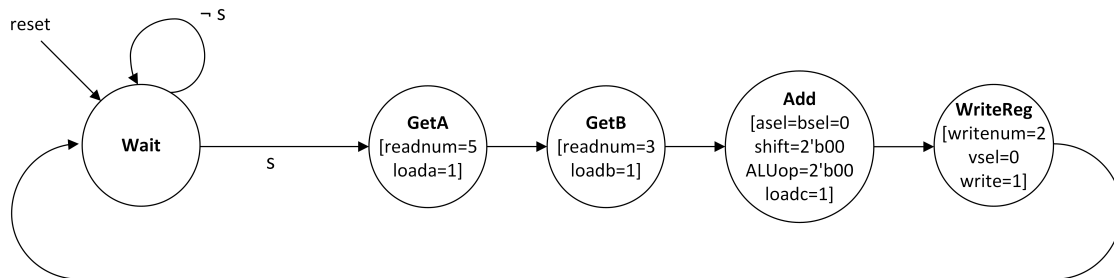
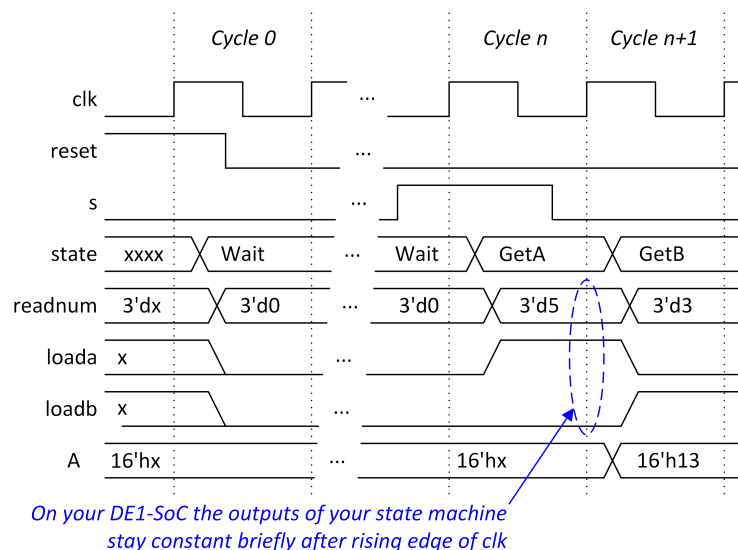
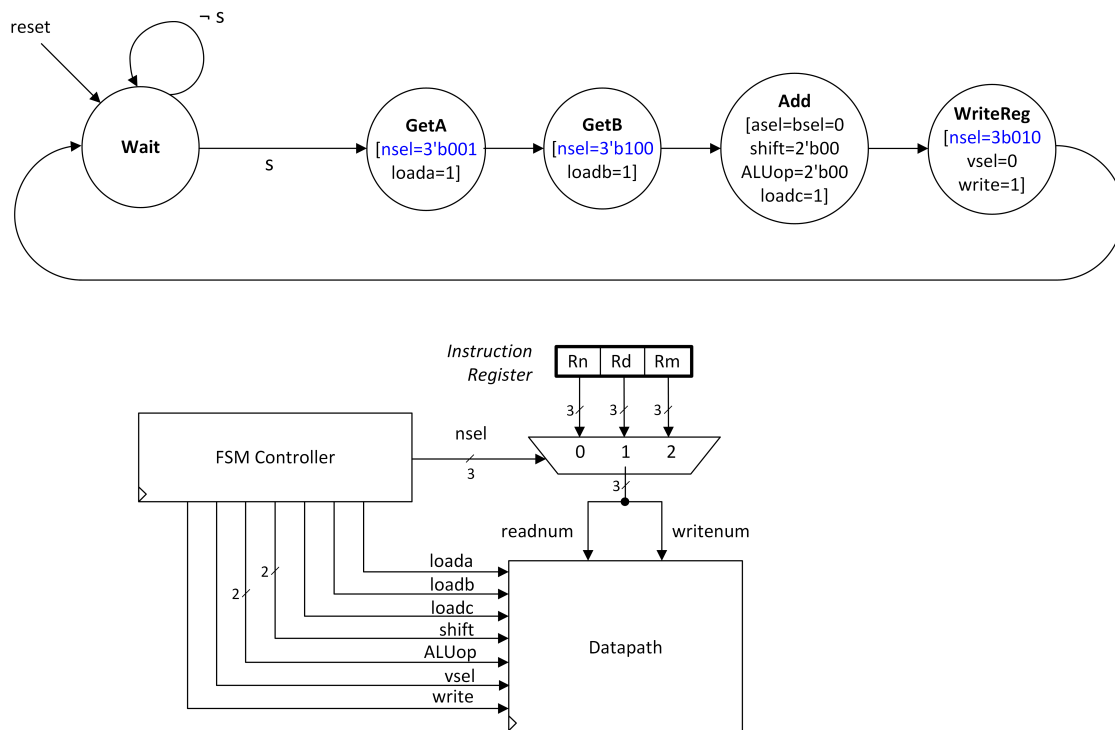

Figure 1: Finite state machine for “ADD R2, R5, R3” (do not build).
Figure 2: Register A updated on same rising edge of  $clk$  that state changes from GetA to GetB.
Figure 3: A partial instruction register (do NOT build).
To execute “ADD R2, R5, R3” on the datapath in Lab 5 requires four clock cycles and manually setting the control inputs. A faster way to set the control inputs is using a finite state machine. Figure 1 illustrates a **preliminary** state machine design for implementing “ADD R2, R5, R3”. The inputs to the state machine are *reset*, *s* and the clock (not shown). The outputs of the FSM are inputs to the Lab 5 datapath. In Figure 1 any datapath input not shown as an output of a given state is 0 in that state. For example, when in state *GetA* the datapath input *loadc* is assumed to be 0 even though it is not explicitly shown inside the circle representing state *GetA*. Later, in Section 4.2, you will design your own state machine. When you do, remember you need to set all outputs in every state (including zero and don’t care outputs).
In Figure 1, after reset the state machine waits for a start signal *s* in state *Wait*. Here a value of 1 on
Figure 2 illustrates the timing of a circuit combining the controller in Figure 1 with the data path from Lab 5 would behave assuming R5 initially contains 16'h13. ModelSim performs **functional simulation** in which the output of flip-flops and combinational logic occur after an infinitesimally small (but non-zero) delay so that values will appear to change right at the rising edge of  $clk$ . To understand Figure 2 it is important to remember the output of flip-flops and combinational logic in a real circuit do not actually change instantly after the rising edge of the clock in a real circuit.
In detail the behavior in Figure 2 is as follows: When in *state* *Wait* and  $s$  is 1, the rising edge of  $clk$  at the start of *Cycle n* causes *state* to change to *GetA*. The change in *state* causes *readnum* to be set to 5 (shown as “3'd5”) and *loada* is set to 1. At the next rising edge of the clock, between *Cycle n* and *Cycle n+1*, the contents of register R5 are copied to Register A and simultaneously *state* changes to *GetB*. The *state* change to *GetB* causes *readnum* to change from 5 to 3. If you were to look at this waveform in ModelSim the slight delays in the change of *state*, *readnum*, *loada*, *loadb* and A after the rising edge of  $clk$  would not be shown. The lack of such a delay in ModelSim waveforms leads some students to worry that *readnum* changing at this rising edge could cause the contents of R3 to get copied into Register A (instead of R5). Provided you have written Verilog that follows the synthesis rules taught in class, this incorrect behavior will not happen in the real circuit or your ModelSim simulations for two reasons: First, the flip-flops inside of register A start to copy their D input to their Q output at the rising edge of  $clk$  between *Cycle n* and *Cycle n+1*. Due to circuit delays, we do not see the output of register A change until some time after the rising edge but the copying started at the rising edge. Second, again reflecting how the real circuit operates the flip-flop outputs connected to *state* change slightly after the rising edge of  $clk$  and the state machine outputs *readnum*, *loada* and *loadb* change slightly after the change in *state* due to the delay of combinational logic. Thus, *loada* and *readnum* are still equal to 1 and 5 when the update of register A starts so the contents of R5 are (correctly) copied to A **before** the change in *readnum* during *Cycle n+1* can cause a problem.
What if we want to be able to use different registers besides R2, R5, and R3 while performing addition? We can introduce some *programmability* by adding an *instruction register*. Figure 3 illustrates the datapath from Lab 5 combined with a state machine and instruction register. In this figure, the block labeled “Instruction
Register” contains three 3-bit fields: Rd, Rn and Rm. Each 3-bit field is used to specify the name of one of the eight registers inside the register file inside the datapath. The block labeled “FSM Controller” implements the (revised) state machine illustrated at the top of Figure 3. This state machine uses the datapath and instruction register to implement “ADD Rd, Rn, Rm”. For example, to execute “ADD R2, R5, R3” we would set Rd=3'b010, Rn=3'b101, and Rm=3'b011.
Compared with Figure 1 the output of the states for the state machine in Figure 3 have been modified. Instead of directly specifying constant values for *readnum* and *writenum* the state machine now has an output called “*nselect*”. The signal *nselect* is used as the select input of a three input multiplexer. This multiplexer selects which of the 3-bit values Rd, Rn or Rm inside “Instruction Register” should be driven to *readnum* and *writenum* (we used the same multiplexer for *readnum* and *writenum* as at any given time we are either reading or writing).
**How should you design your state machine?** The examples shown in Figure 3 and 4 used a Moore type finite state machine where the output depends only on the current state. You can do the same or, if you want, use a Mealy state machine.
Lab 5 to perform the steps listed in the “Operation” column. One way to do this is by referring to Figure 1 in the Lab 5 handout. Work out the number of clock cycles it takes to perform the data operations required for the instruction. Each cycle will require an additional state beyond the “Wait” state shown in the example in Figure 3. After the last state required to execute the instruction on your datapath, your state machine should return to the “Wait” state as shown in the example in Figure 3. In the “Wait” state make sure your **w** output is 1 so the autograder (or your own test bench) knows the computer has finished executing the instruction and is ready to execute a new instruction.